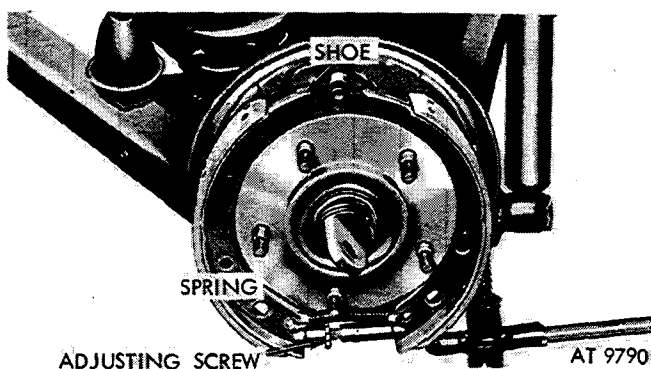

Figure 2-371. Remove brakeshoes.
(5) Remove both brakeshoes with adjusting screw assembly and adjusting spring intact from backing plate (fig. 2-371). Lift off entire assembly.
(6) Remove brake shoe adjusting screw assembly and spring from brake shoes (fig. 2-371).